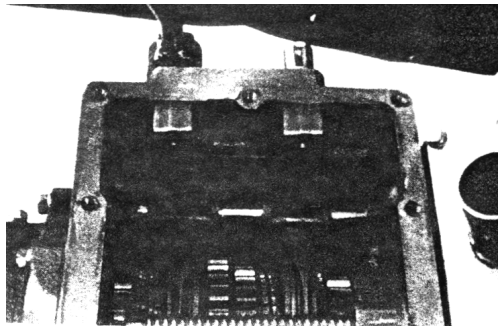

Fig. 3-16
(4) Speedily shift the speed gear from forward gear to backward gear or vice versa to let the front end of the shift rod leave the transmission housing (Fig. 3-16).